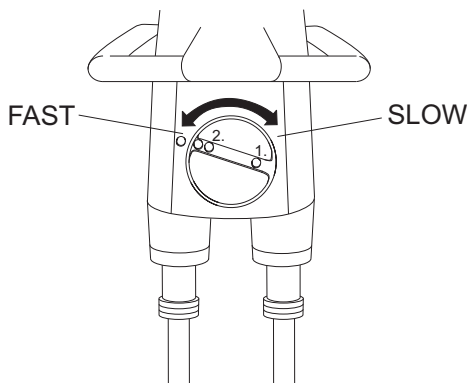

Figure 7. Gear Selection Lever
3. To change the maximum speed, turn the gear selection lever 180° (Figure 7). First gear is slow and second gear is fast.